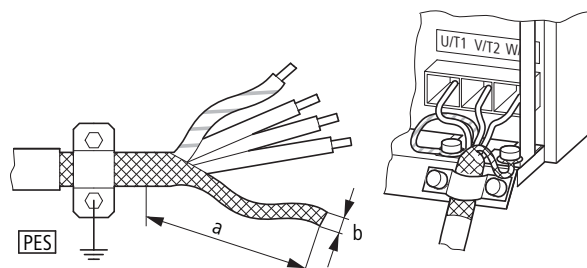

Figure 39: Connection with twisted cable screen
- ▶ Connect the screening, on both sides and across a large area (360° overlap), to the protective earth (PE) (⊕). The power screening's protective earth (PES) connection should be in the immediate proximity of the frequency inverter and directly on the motor terminal box.
- ▶ Prevent the screening from becoming unbraided, e.g. by pushing the opened plastic sheath over the end of the screening or with a rubber grommet on the end of the screening. As an alternative, in addition to a broad area cable clip, you can also twist the shielding braid at the end and connect to protective ground with a cable clip. To prevent EMC interference, this twisted screening connection should be as short as possible (→ Figure 39).
Alternatively, in addition to the broad area gland plate, you can also twist the screen braid at the end and connect to the protective earth with a cable lug. To prevent EMC disturbance, this twisted shielding connection should be made as short as possible (→ Figure 39, page 68).